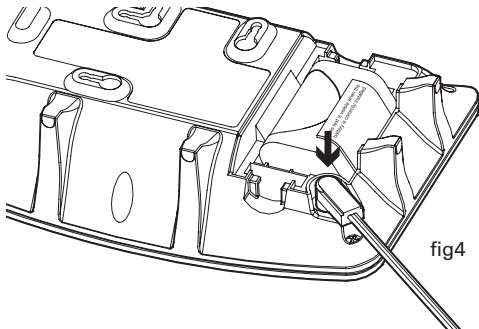

fig4
5. Plug the power cable in to the Low Frequency Sounder by fitting the cable into the connection point as shown (fig 4).